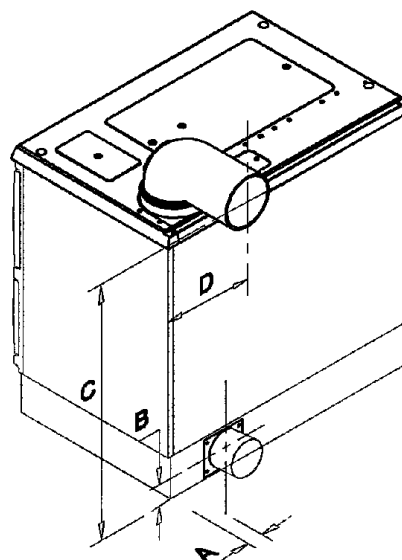

Fig.6
- (a) Make two openings through the wall, one a 150mm (6") and one 250mm (10") diameter, where the cooker is to be located. The 150mm (6") opening is for the primary air inlet duct. The 250mm (10") is for the fan flue terminal assembly. See (fig. 6) for fixing centres.
- (b) Connect the fan flue terminal assembly (item 1.) to the cast iron bend.
- (a) Connect the air inlet terminal (item 6.) to the flexible duct (item 5.) and secure using remaining jubilee clip (item 7).
- (b) Screw the (item 3) terminal guard fixing brackets to the wall and bolt terminal wire guard (item 2.) to the brackets.